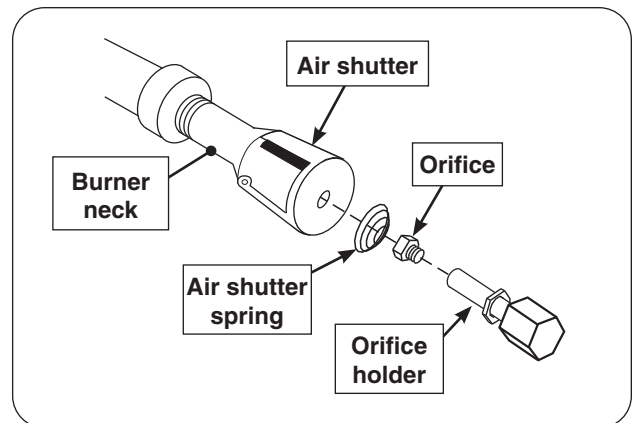

Fig. 43-3 Burner removal diagram
4. To re-install, position the air shutter spring and air shutter over the orifice holder fitting, between the burner and the heat shield, in the order and position shown in Fig. 43-3. Do for both burner necks.